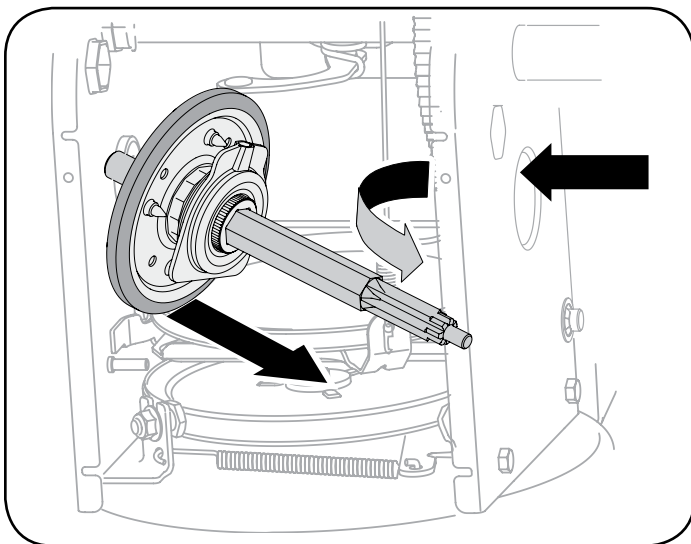

Figure 61
- Carefully position the hex shaft downward and to the left before carefully sliding the friction wheel assembly off the shaft. See Figure 61.